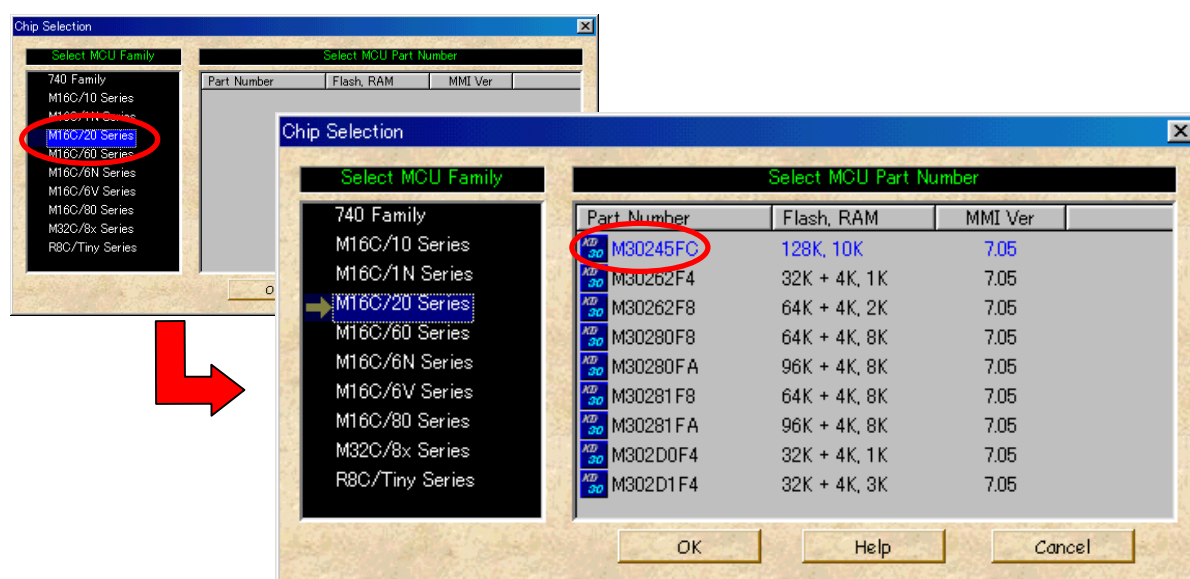

Fig.6-2
2. When you press the “Select MCU” button, the window shown in Figure 6-2 is displayed. Select “M16c20 Series” – “M30245FC” and click “OK” button.